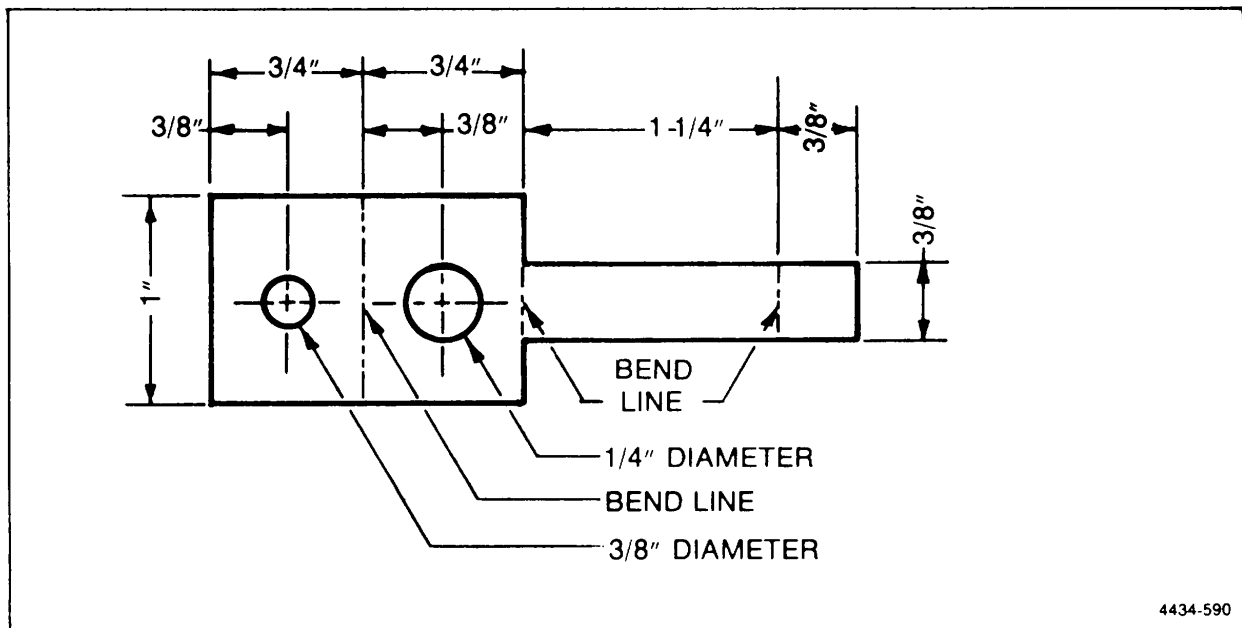

Figure 5-1. Test Fixture construction diagram.
- a. Using 50 mil aluminum, cut and drill the chassis according to Figure 5-1.